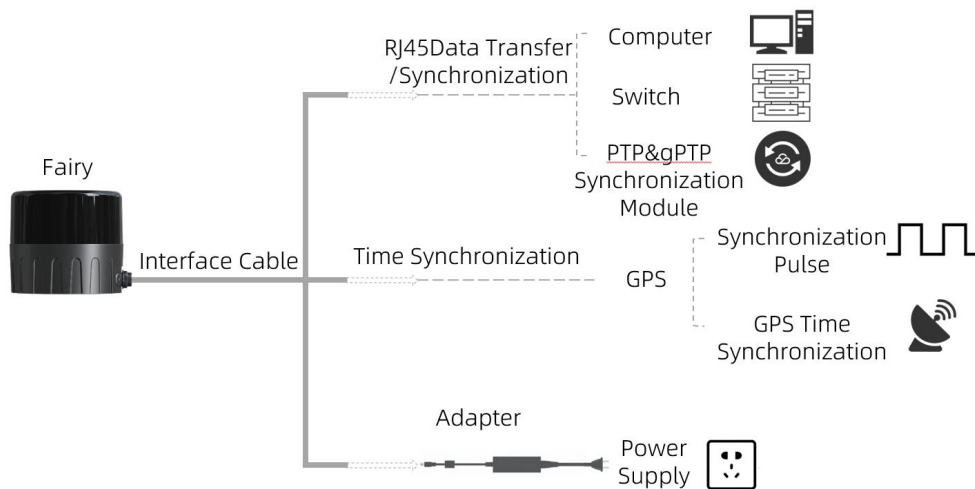

Figure 10 LiDAR Connection
The connection method is shown in Figure 10 .
- 2) The time synchronization module (PTP & gPTP, GPS time synchronization module) is not included as a standard product. If you need to use these features, please purchase them separately and follow the connection method shown in Figure 10;